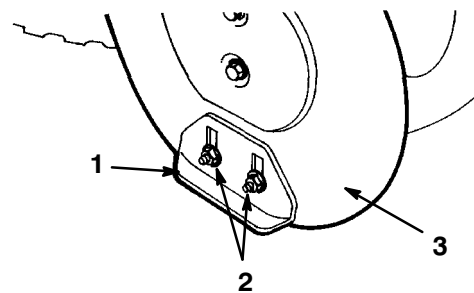

Figure 24
4. Loosen the four flange nuts that secure both skids to the auger side plates (Fig. 24) until the skids slide up and down easily.
- Tighten the four flange nuts that secure both skids to the auger side plates (Fig. 24).